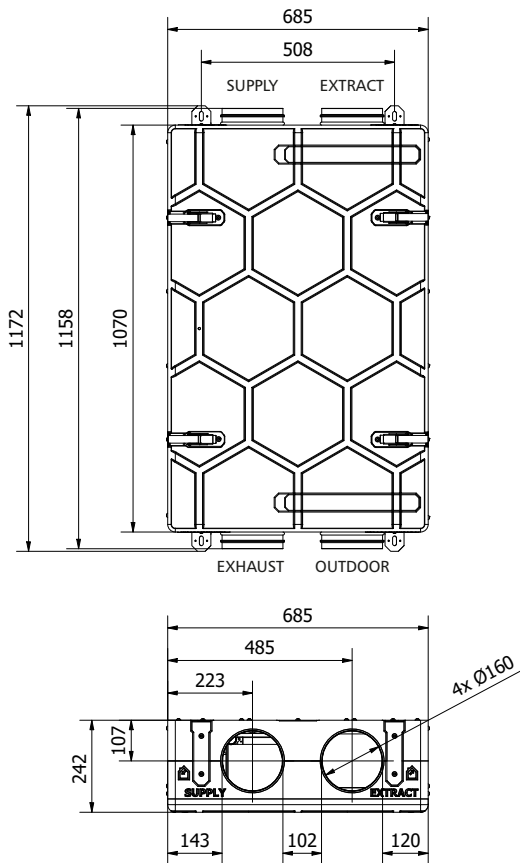

Fig. 1 - Dimensions
1. Dimensions: 242x685x1070 mm (HxWxD) [Fig. 1]